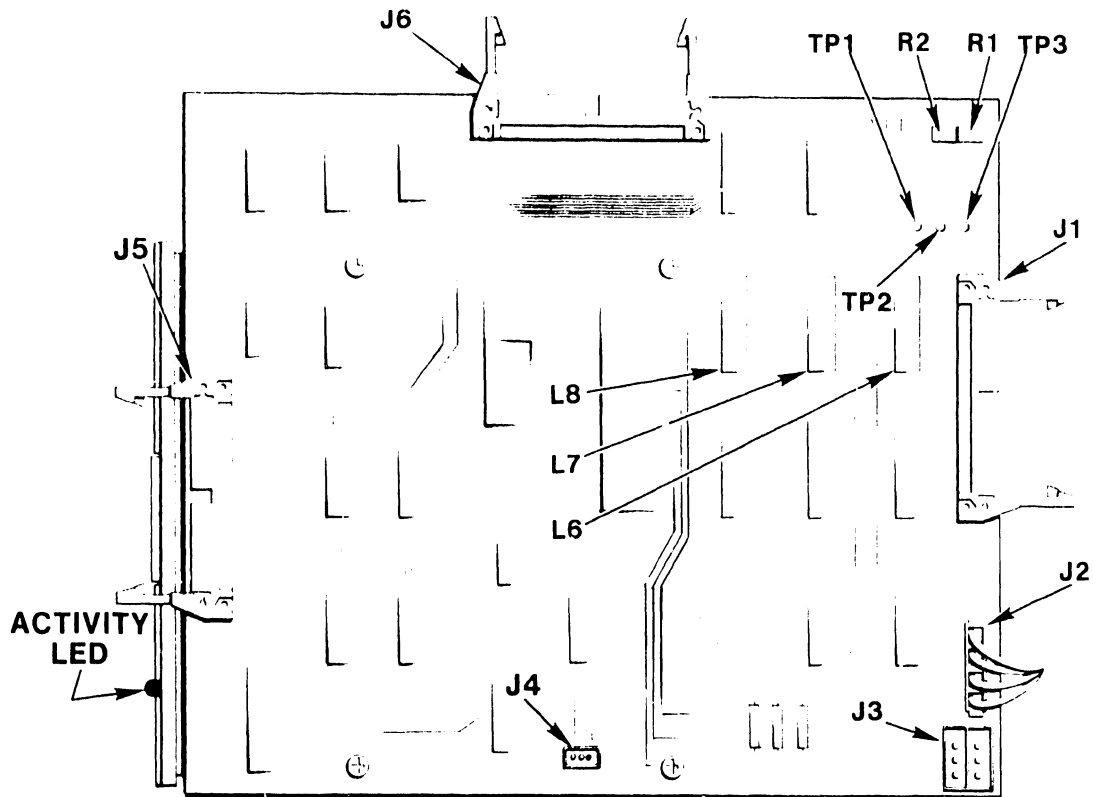

FIGURE 6-3 CONTROLLER BOARD CONNECTOR AND TESTPOINT LOCATIONS
- k) Connect probe 1 to TP₁ (L6-7). (See Figure 6-3.)
- l) Connect probe 2 to TP₂ (L6-9). (See Figure 6-3.)